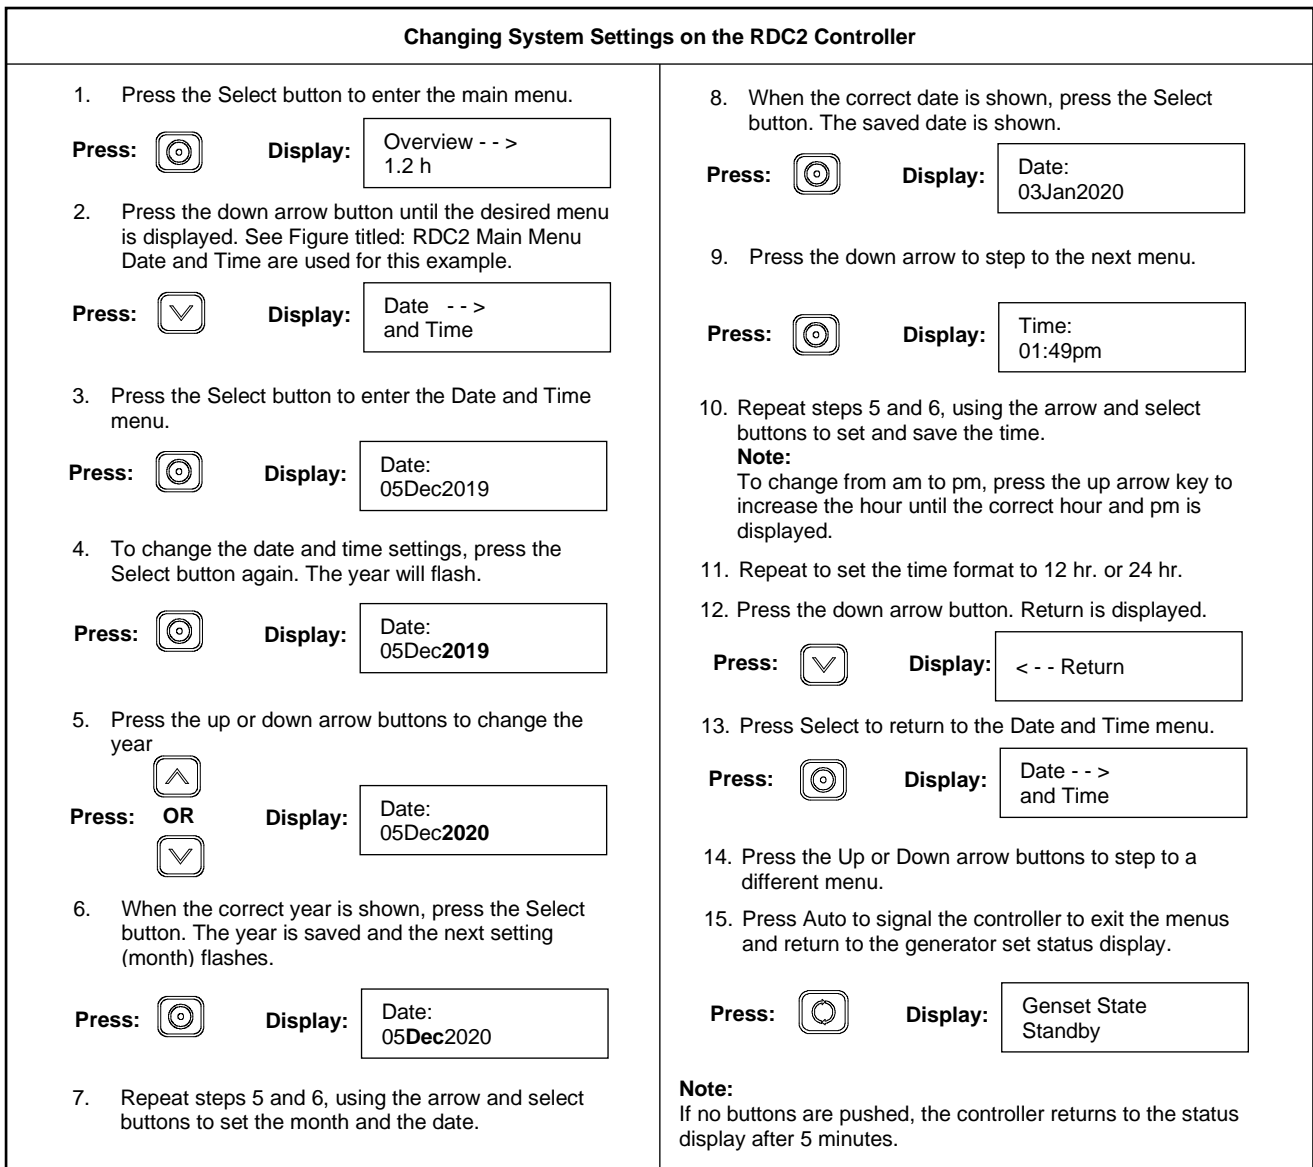

Figure 19 Changing Settings
The following procedure explains how to change settings. See Figure 19 for an example using the Date and Time settings.
2. Press the down arrow button until the desired menu is displayed. The Date and Time menu is used for the example in Figure 19.
3. Press the Select button to enter the selected menu. See Figure 19.